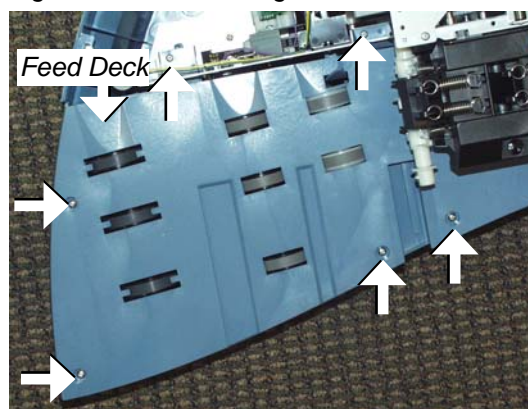

Figure 5-86 Removing Feed Deck
3. Remove six screws (located by arrows in Figure 5-86).